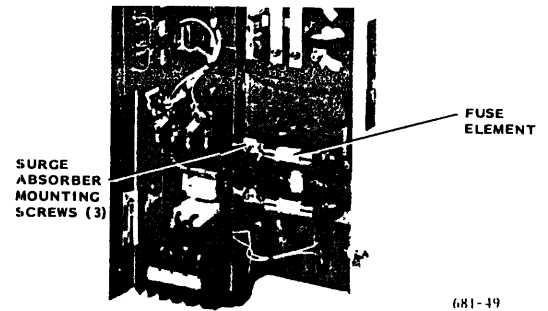

Fig. 19 Surge Absorber Fuse
1. Pull the fuse element and remove it. (Fig. 19)